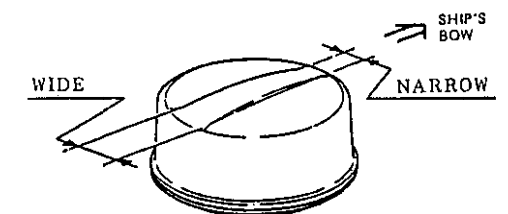

Fig.8 Radome Cover Placement
- Put the radome on the radome base assembly, taking note of that the narrower recessed part should face in the direction of the bow. Fig.8.
11. Install the radome on the radome base assembly, being careful of its direction. The narrower recessed part should face the bow direction. See Fig.8.